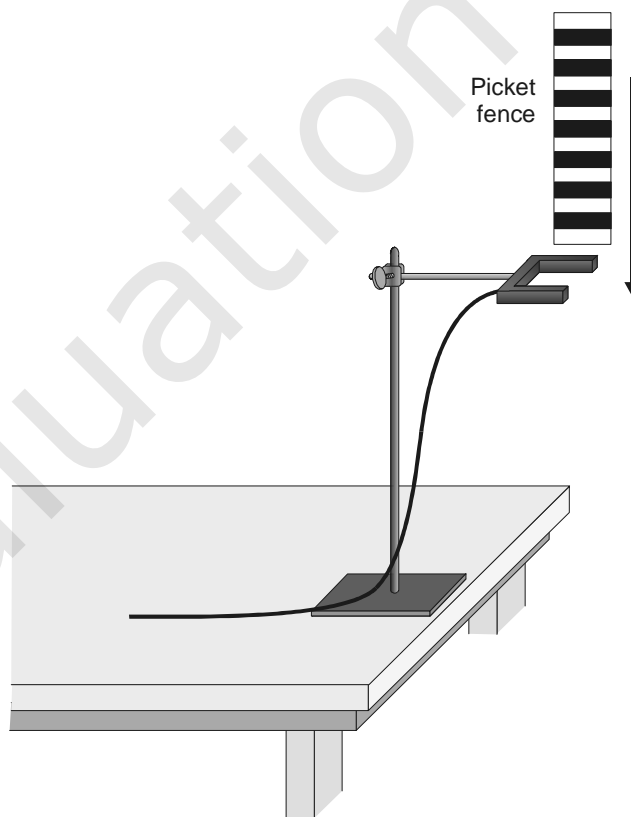

Figure 1
1. Fasten the Photogate rigidly to a ring stand so the arms extend horizontally, as shown in Figure 1. The entire length of the Picket Fence must be able to fall freely through the Photogate. To avoid damaging the Picket Fence, make sure it has a soft surface (such as a carpet) to land on.